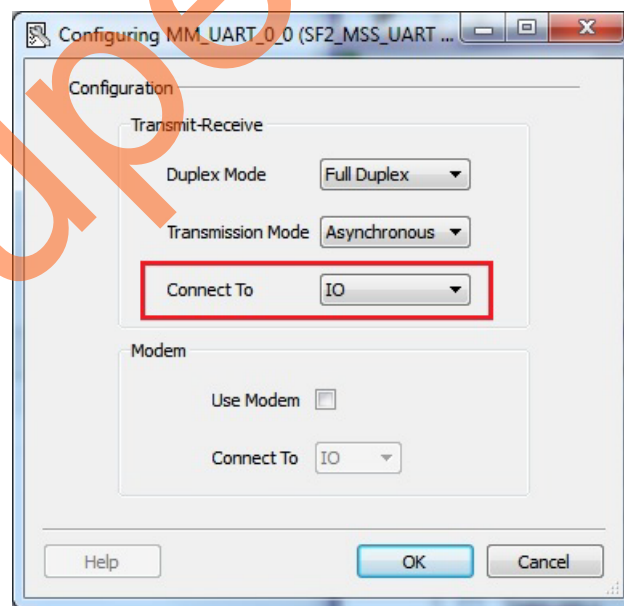

Figure 15 • MM_UART Configuration
20. Select **IO** from the **Connect To** drop-down list and retain the default settings, as shown in Figure 15.